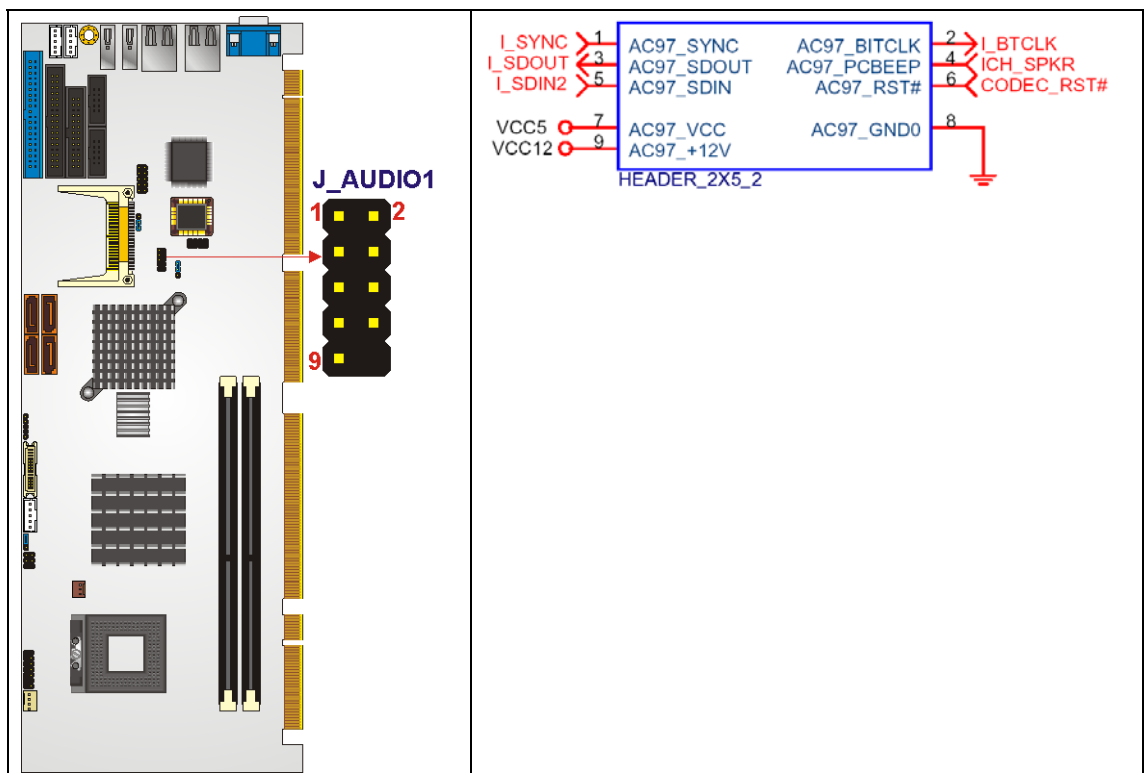

Figure 4-3: Audio Connector Pinouts (10-pin)
- CN Location:** See Figure 4-3